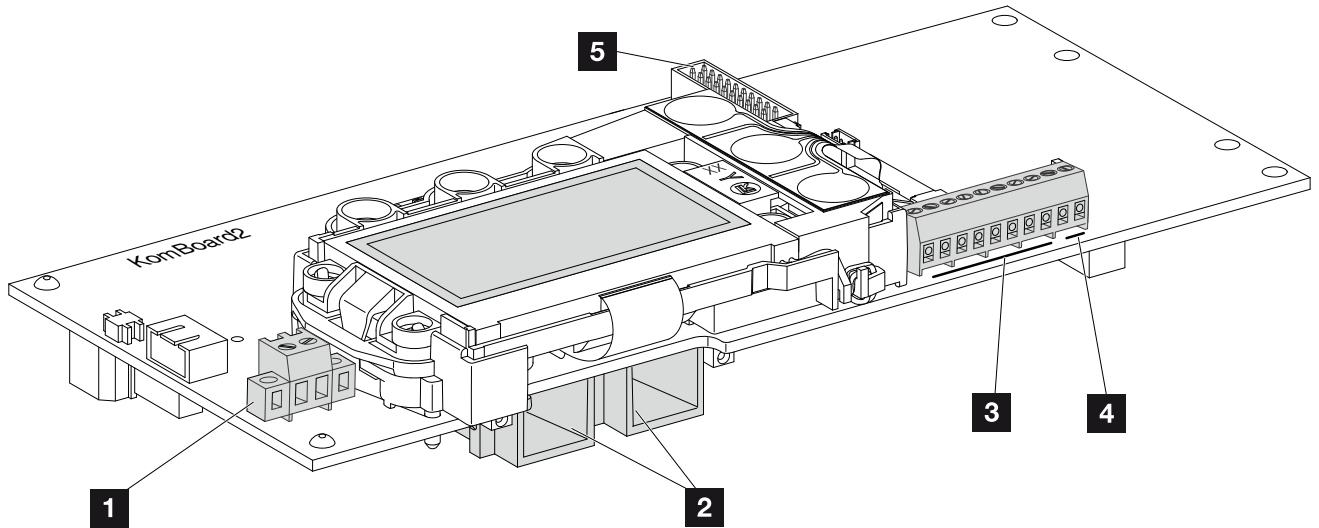

Fig. 38: Components of the communication board
6. Plug the sockets and plugs of the DC strings onto the inverter.  **Fig. 38**